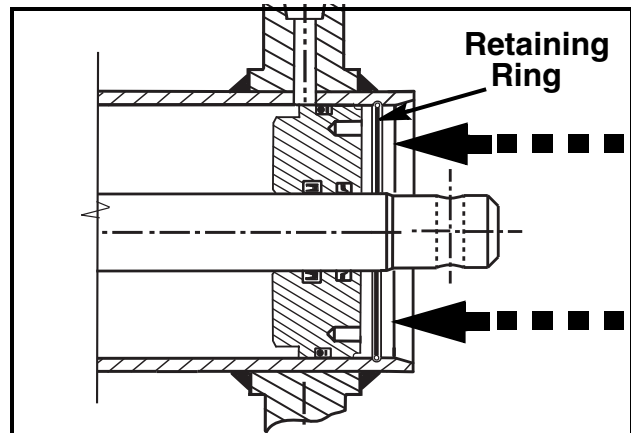

FIGURE 5
25. Using a flat punch (aluminum, brass or wood dowel), gently tap on the end of the punch with a hammer to drive the end cap back into the cylinder bore until the face of the end cap is past the retaining ring. Alternate sides when tapping on the end cap to drive the end cap back evenly. See Figure 5.